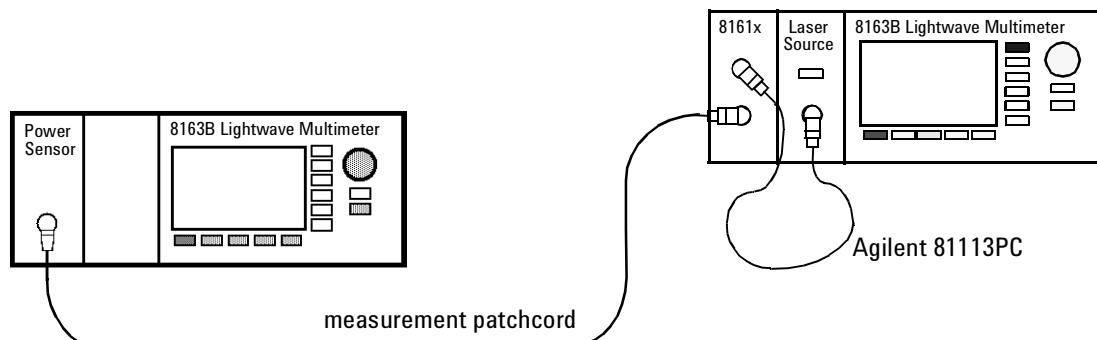

Figure 102 Power Transmitted through the Measurement Patchcord - External Source
**1 Making sure all the connectors are clean, set up the instrument as shown in Figure 102 if you are using an External Source,**